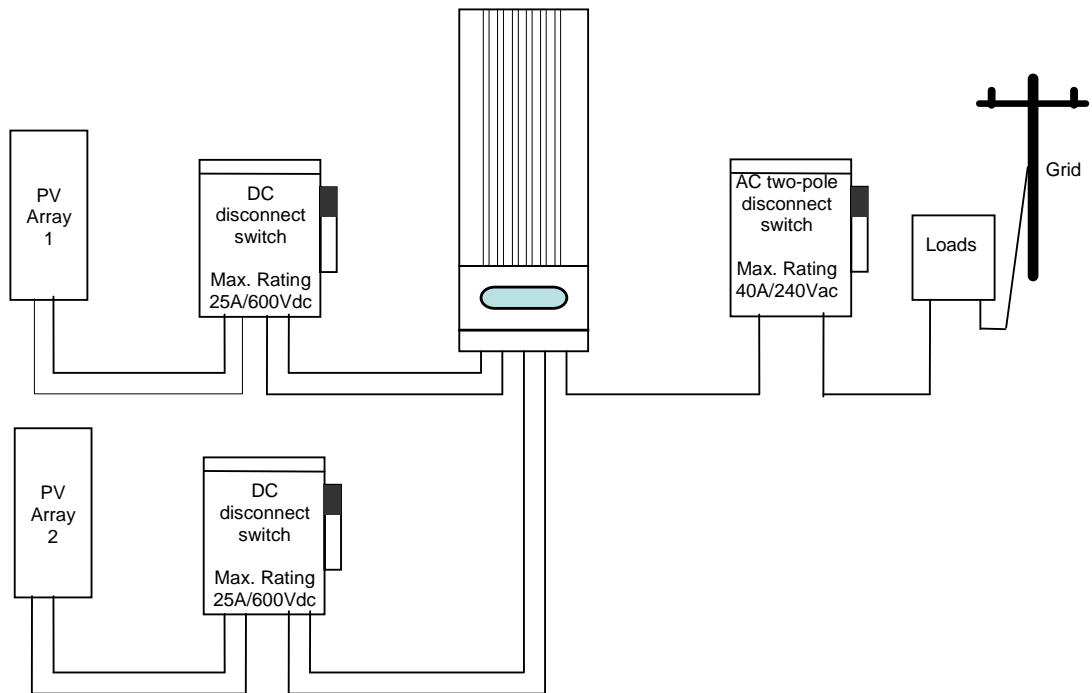

Fig.9 Wiring diagram
**NOTE:** In accordance with the typical assembly diagram (see Fig.9), each array must be connected to a two-pole DC disconnect switch. An AC disconnect switch with overload cutout must be used to connect AURORA to the grid. Recommended ratings for the disconnect switch or the overload cutout are maximum 40A, 240V.